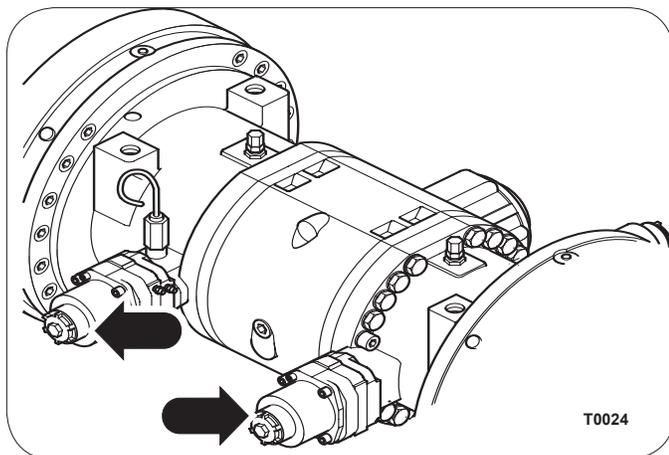

Figure 3: Tandem Axle Parking Brake Release
4. Use the 24mm wrench to access the manual parking brake releases on the tandem axles. See Figure 3. The release screws are provided behind the parking brake housing covers.